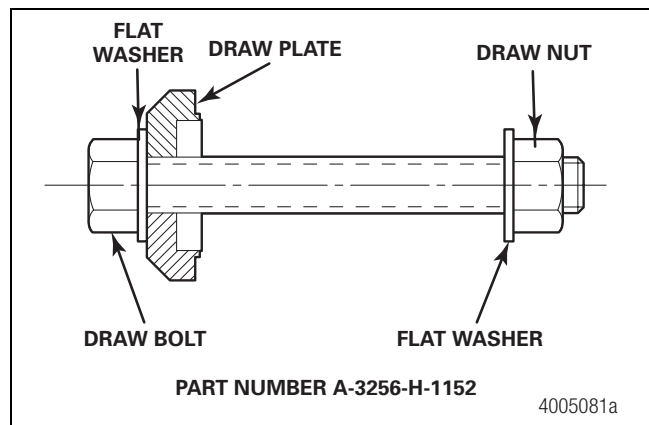

Figure 6
10. The bushing tool part number A-3256-H-1152 consists of the following components: Figure 6.